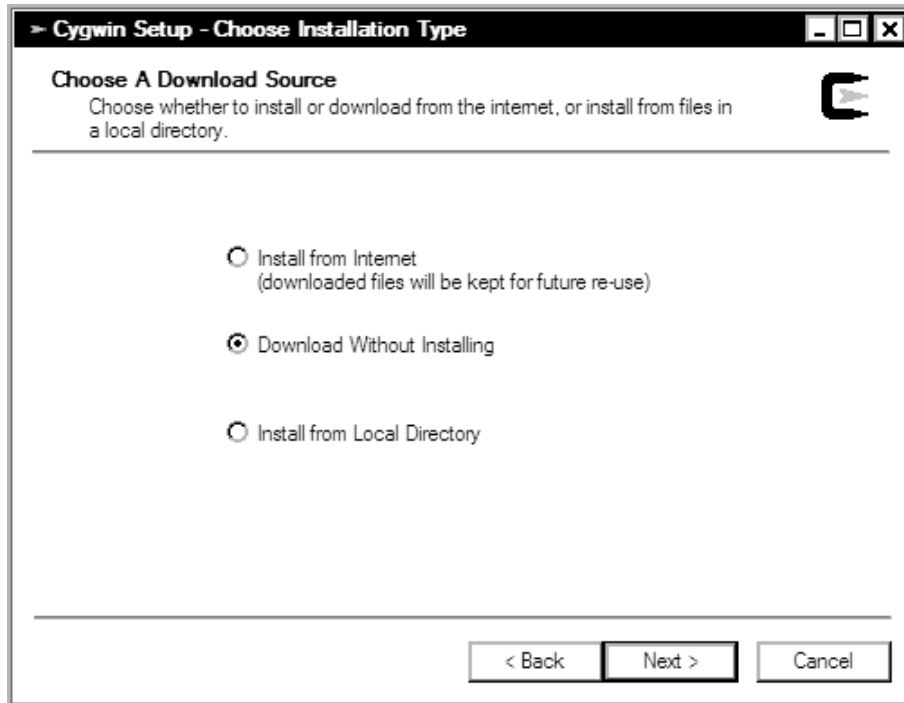

Figure 2-2. *Cygwin installation: selecting the download source*
5. Choose an installation type (see Figure 2-2). The recommended method is Download Without Installing, which fetches all the components that Cygwin needs to install and stores them on your system.